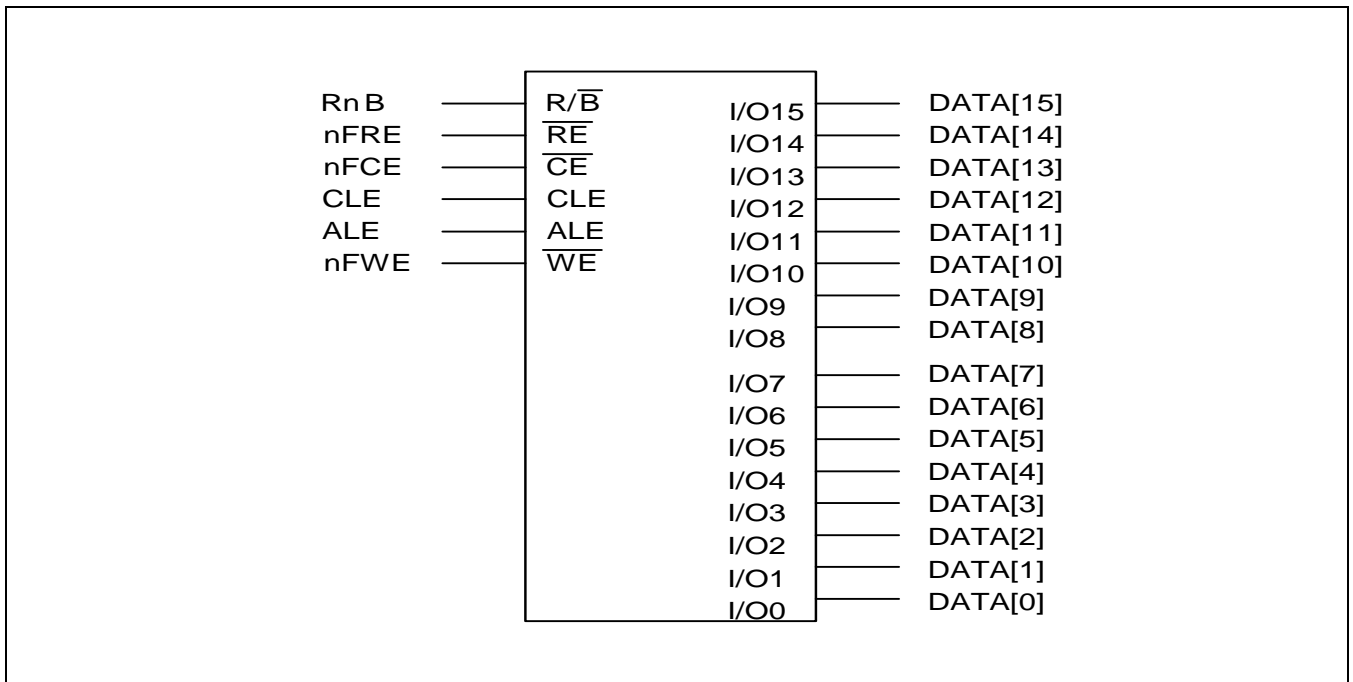

Figure 4-17. A 16-bit NAND Flash Memory Interface
- LTS350Q1-PE1 (256K color TFT LCD) from SAMSUNG ELECTRONICS CO., LTD. (refer to Figure 4-17)